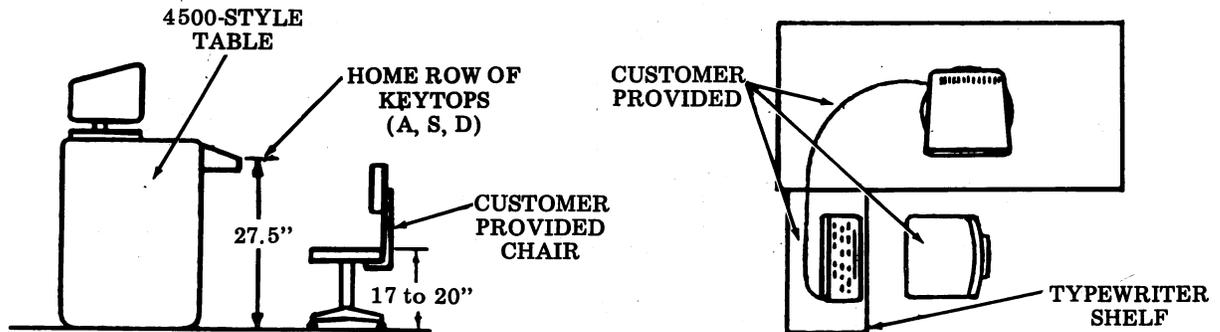

Fig. 13—KD Layout Examples
5.05 The attached style KD provides a fixed relationship between the keyboard and the display. The use of 4500-style furniture provides proper keyboard height for seated operators. Fig. 13 provides examples.